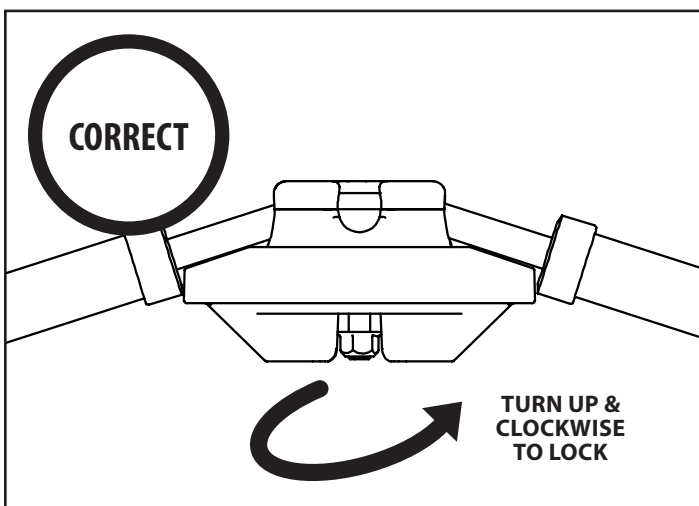

FIGURE 5A - CORRECT INSTALLATION WITH ROOF POLES ON OUTSIDE EDGE OF LOCK HUB
- Spin the roof lock clockwise (upward) to lock roof poles in place. **SEE FIGURE 5A.** You must push upward on roof fabric to make sure roof lock fully engages and that **ALL** (4) poles are on the outside rim of roof lock.
The roof lock should be nested tightly with roof poles on outside edge of the roof lock **SEE FIGURE 5A.** The roof lock is installed wrong if the roof poles are on top of the roof lock leaving a gap **SEE FIGURE 5B.**